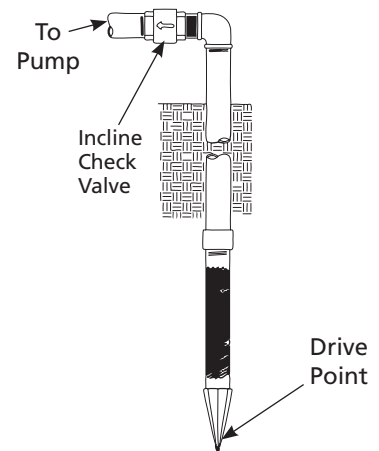

Figure 3 Illustration C
A shallow well jet assembly can be used with the deep well pump when the pump is located 25 feet vertically of the water level. Shallow well installations have only one pipe between the pump and water supply (Figure 3).
1. Install a foot valve on the first section of pipe (Figure 3, Illustration A).
NOTE: A packer type foot valve can be installed in the well (Figure 3, Illustration B). This type of foot valve allows the well to be filled with water when priming and makes the inlet pipe much easier to test for leaks. Follow the manufacturer's instructions when installing the packer type foot valve.
As an alternative, an in-line check valve can be used with a driven well (Figure 3, Illustration C). The pipe between the check valve and the water level will always be under a vacuum.